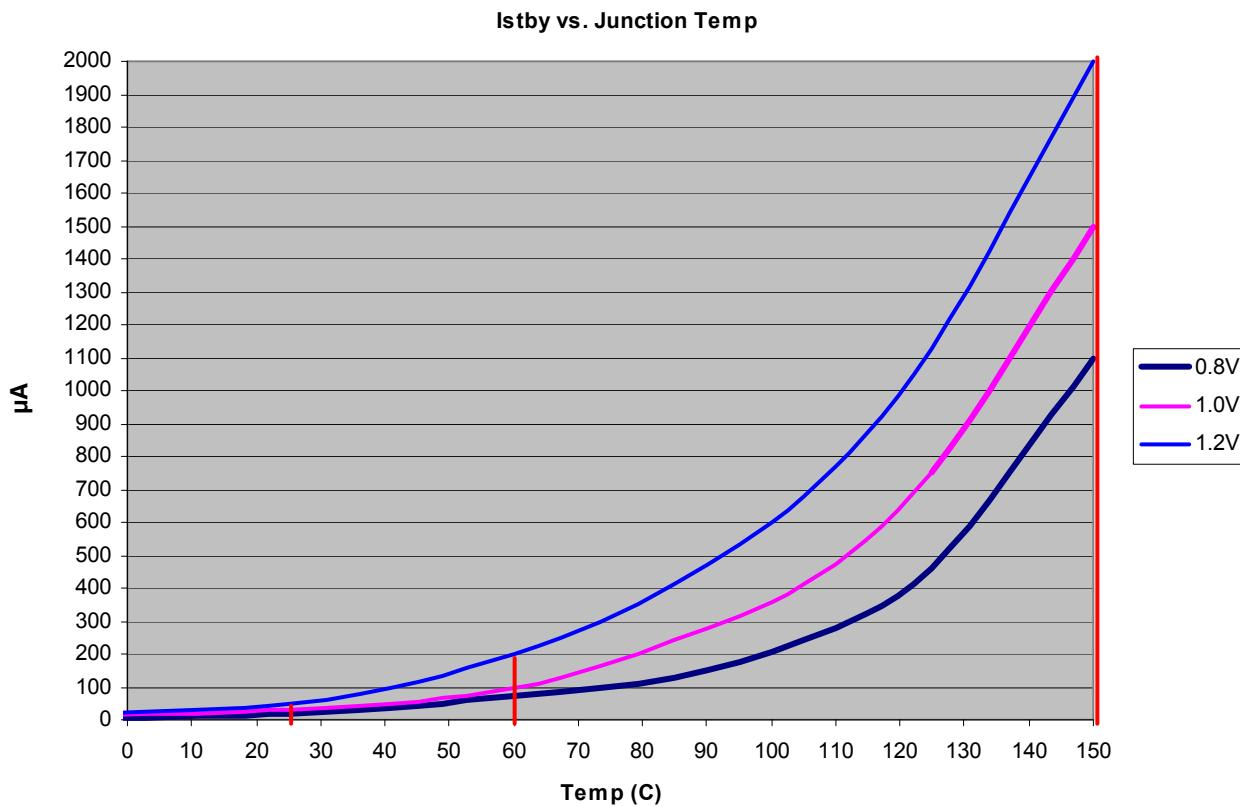

Figure 3.  $I_{STBY}$  Worst-case Specifications
- 9 Figure 3 shows an illustration of the  $I_{DD\_STBY}$  values interpolated for these temperature values.
Figure 3 shows an approximate interpolation of the  $I_{STBY}$  worst-case specification to estimate values at different voltages and temperatures. The vertical lines shown at 25 °C, 60 °C, and 150 °C in Figure 3 are the  $I_{DD\_STBY}$  specifications (27d) listed in Table 9.